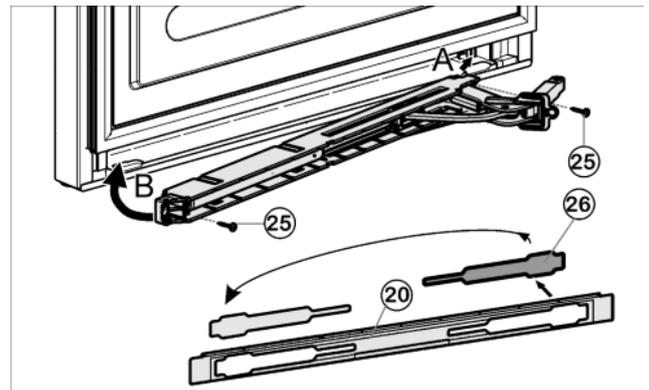

Fig. 14
- ▶ Remove the cover Fig. 14 (26) from the faceplate Fig. 14 (20) and re-insert it at the other side.
- ▶ Engage the soft stop unit with the joint pointing to the hinge side (A) and swivel into place (B).
- ▶ Screw the soft stop unit firmly into place (2 mal Torx® 15) Fig. 14 (25).